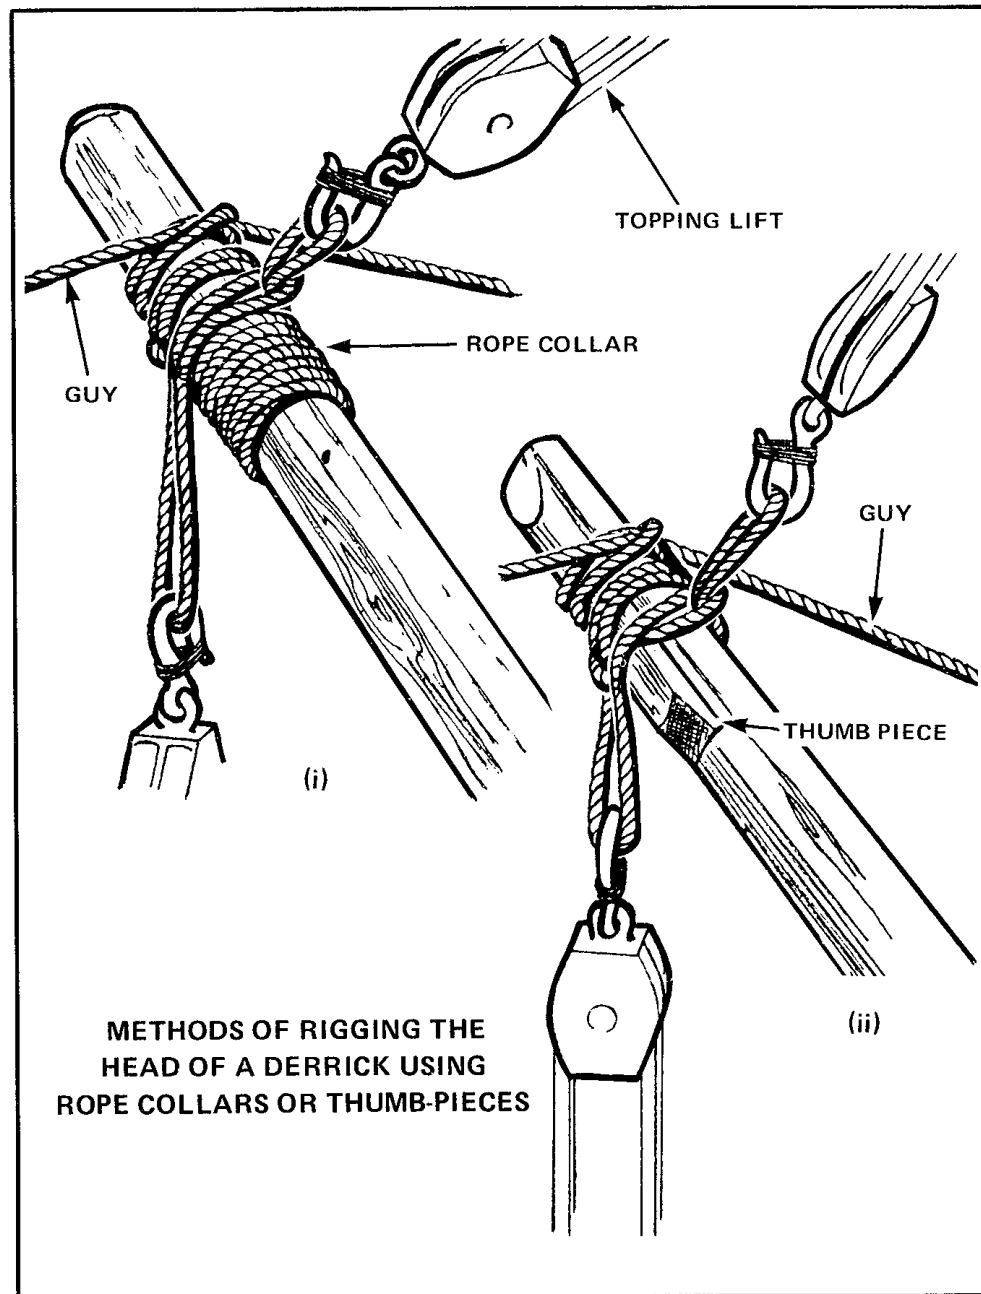

Figure 4-72 Methods of Rigging the Head of a Derrick Using Rope Collars or Thumb-Pieces
- a. **Stops** for attaching the purchase and topping lift are first placed over the derrick head. They are prevented from slipping down either by wooden projections called **thumb pieces** (Figure 4-72 (ii)) screwed or nailed in place, or by a rope **collar** (Figure 4-72 (i)) put on the spar like a whipping. These strops should lie close together so as to avoid a bending stress on the spar.